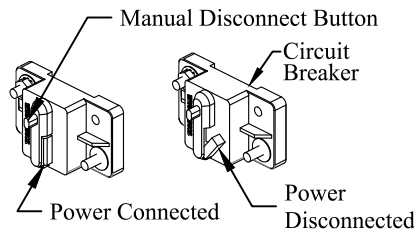

Figure 18: Circuit Breaker.
2. Disconnect the #4 power cable from the positive side of the battery or manually Trip the circuit breaker (Figure 18).